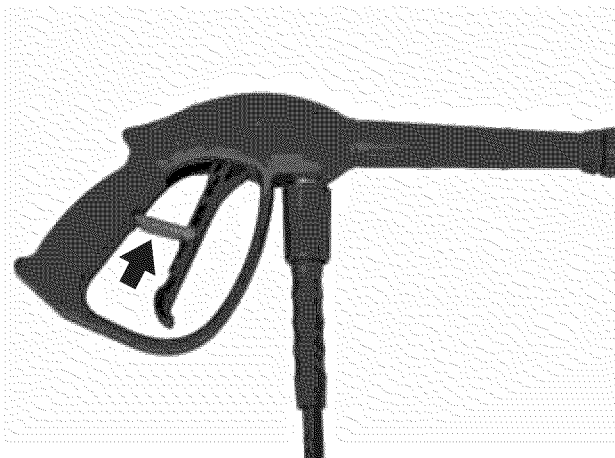

Figure 24 – Trigger Lock Locked
1. Push up the trigger lock to lock it in the **OFF** position (see Figure 24).